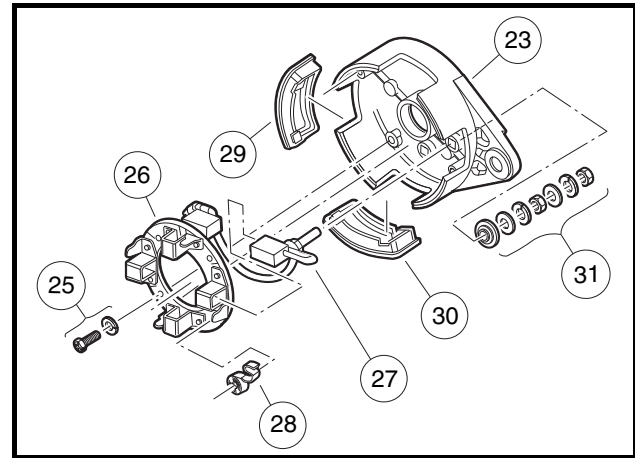
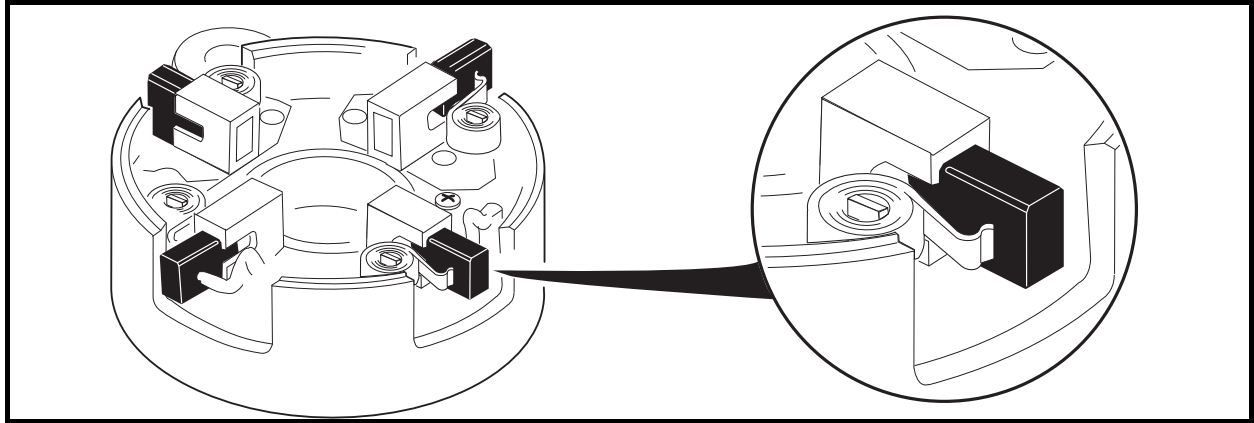

Figure 12-17 Brush Covers and Brushes
Figure 12-20 Pull Brushes Away from Center of the Commutator End Cover
1. Remove brush covers (29 and 30). (Figure 12-17, Page 12-12). Pull back each brush spring and pull the brushes back from the center of the commutator end cover. The springs will rest on the sides of the brushes and help prevent them from sliding towards the center of the cover. (Figure 12-20, Page 12-14). See following NOTE.
3. Remove terminal hardware (31), screws and lock washers (25), brush holder assembly (26), brush springs (28), and brushes (27). Make note of the routing of the brushes and wires between the brush holder assembly and the inside of the commutator end cover for later reassembly (Figure 12-17, Page 12-12). See following NOTE.
2. Install the four brushes (27) into their holders and insert the four brush springs (28) (**Figure 12-17, Page 12-12**). Insert the brush wiring terminal studs through the commutator end cover (23) and assemble using the terminal hardware (31). Route the brush wiring between the brush holder assembly (26) and the inside of the commutator end cover (23) and assemble using the screws and lock washers (25). Using a spring scale, test brush spring tension. If any spring has a tension less than 14.8 ounces (4.1 N), replace all four springs (**Figure 12-19, Page 12-13**). See following **CAUTION**.
1. To prevent contact between the brushes and commutator as the commutator is installed, and possible damage to the brushes, pull back each brush spring and pull the brushes back from the center of the commutator end cover. The springs will rest on the sides of the brushes and help prevent them from sliding towards the center of the cover (**Figure 12-20, Page 12-14**).
3. Push the brushes down into the holders. Position springs so that brushes are being held against the commutator. Install the brush cover (30) that has the drain hole in it next to the A2 terminal. Install the remaining three brush covers (29) in the openings in the commutator end cover (23) (**Figure 12-17, Page 12-12**).
5. To prevent contact between the brushes and commutator as the commutator cover is installed, and possible damage to the brushes, lift the brush springs out of the notches in the brushes and pull the brushes back from the center of the commutator end cover. The springs will rest on the sides of the brushes and help prevent them from sliding towards the center of the cover (**Figure 12-20, Page 12-14**).
7. Push the brushes down into the holders. Place springs into the notches in the brushes. Install the brush cover (30) that has the drain hole in it next to the A2 terminal. Install the remaining three brush covers (29) in the openings in the commutator end cover (23) (**Figure 12-17, Page 12-12**).